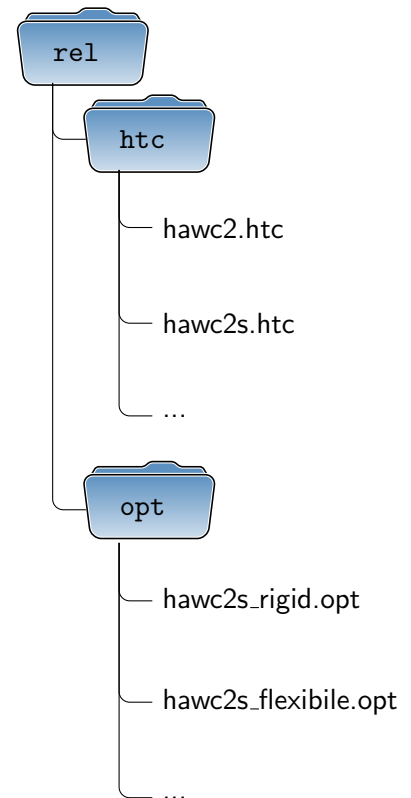

Figure 1: Minimum directory structure
The directory that the file path definitions in your .htc file relate to (here called *rel*) must contain an *htc* and *opt* directory. The *htc* directory holds all (both HAWC2 and HAWC2S) .htc files and the *opt* directory all controller dll's. Jk, all .opt files have to go there. The minimum required directory structure can be seen in Fig. 1.
*Note:* All file paths specified in the `.htc` file (to the different structural, aerodynamic, etc. data files) are in relation to a certain directory. This directory is here called “the directory the `.htc` file relates to”. See Fig. 1.
description	path to the root directory of the results in relation to rel (see Fig. 1)